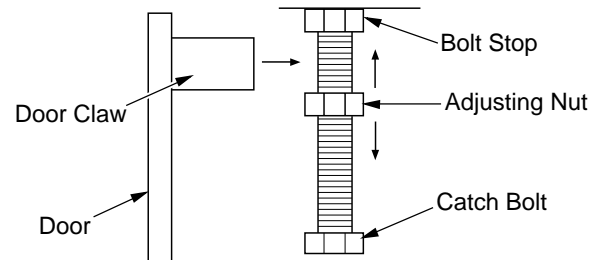

Figure 13 - Catch Bolt and Door Claw Orientation
11. Install door catch bolt (M8 x 1.25-55mm with two M8 hex nuts) into threaded hole on stove body (see Figure 9, page 6). Use an adjustable wrench or a 12mm socket. The catch bolt has two hex nuts attached to it (see Figure 13). The top nut is a bolt stop and the bottom nut is for door leveling adjustment.